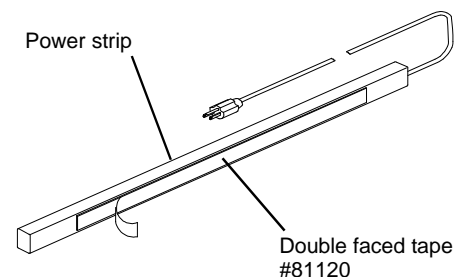

Figure 7
2. Remove the green and white backer from one side of the tape strip. Center or equally space the tape on the back of the Power Strip. Press firmly into place. See **Figure 7**.